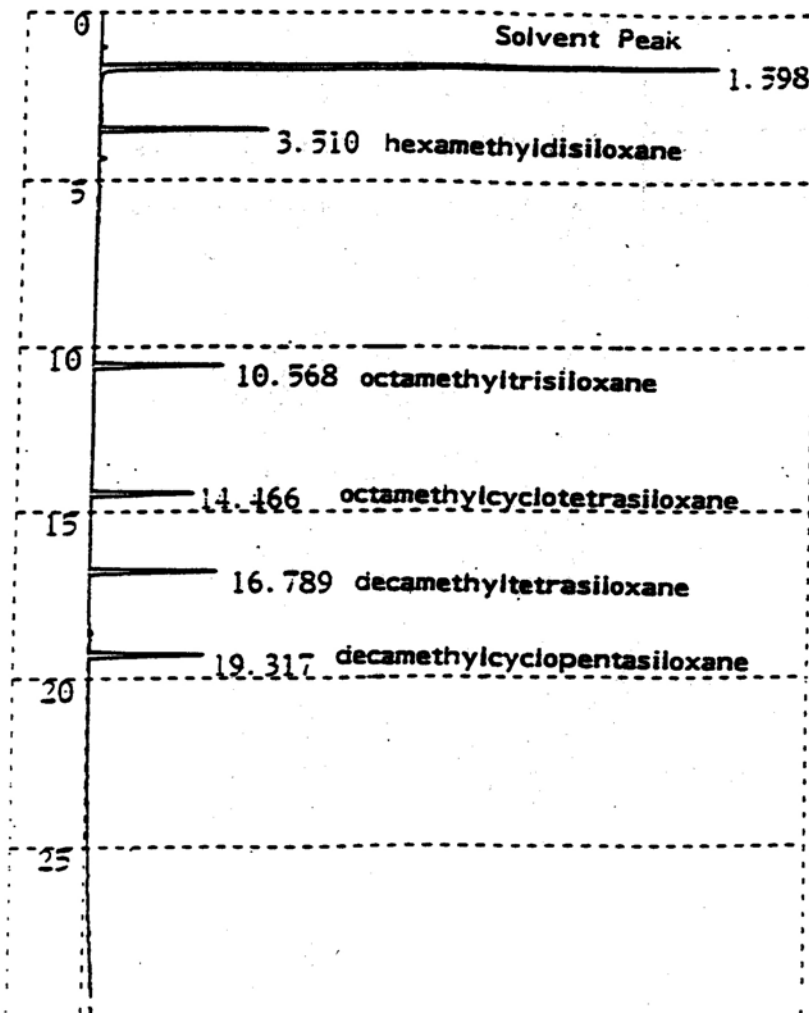

FIGURE 1
4.3.3.3 Using a 10 μ l syringe, inject separately 1 μ l of the mixture (**4.3.3.2**) into the gas chromatograph. Integrate and record the peak areas of octane and the volatile methylsiloxane. Retain the chromatogram. The order of elution is carbon disulfide, octane and volatile methylsiloxane. (**See Figure 1**).